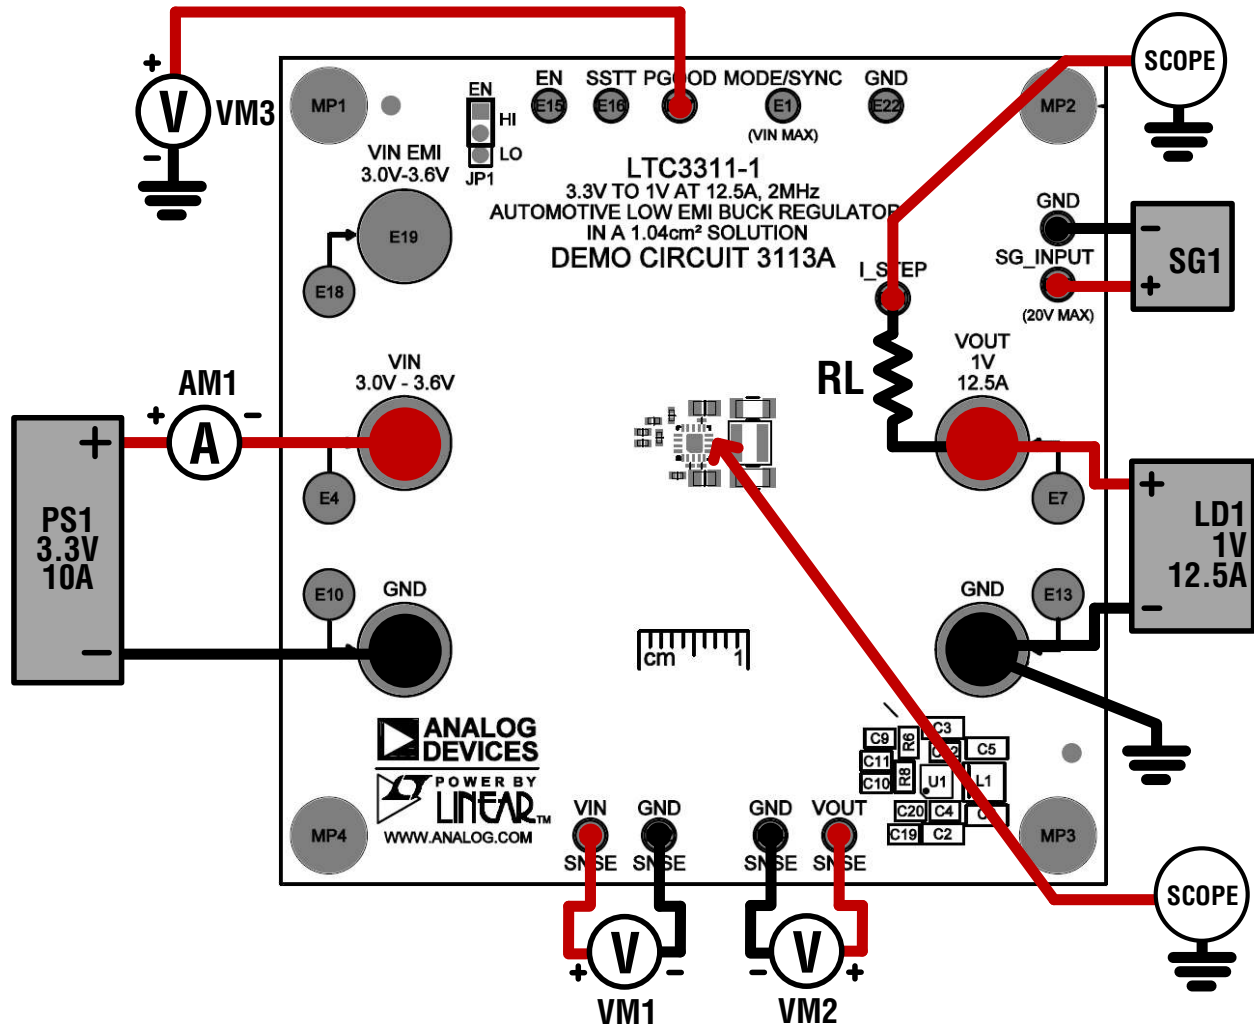

Figure 2. Test Setup for DC3113A Demo Board
Refer to Figure 2 for the proper measurement equipment setup and follow the procedure below:
NOTE: For accurate  $V_{IN}$ ,  $V_{OUT}$  and efficiency measurements, measure  $V_{IN}$  at the VIN SNSE and GND SNSN turrets, and measure  $V_{OUT}$  at the VOUT SNSE and GND SNSE turrets as illustrated as VM1 and VM2 in Figure 2. When measuring the input or output ripple, care must be taken to avoid a long ground lead on the oscilloscope probe.
- To test the transient response with a base load, add the desired resistor to produce a minimum load between VOUT and I\_STEP turrets (RL shown on Figure 2). Note that the total load resistance will be RL plus R10 (10mΩ). Adjust a signal generator with a 10ms period, 10% duty cycle and an amplitude from 1V to 2V to start.